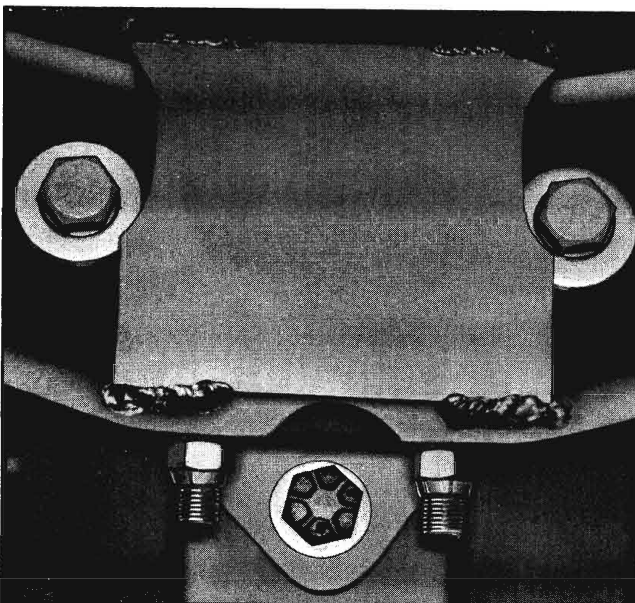

Fig. 4-24 Location of Mounting Bolts
8. Remove two bolts securing differential and carrier to rear crossmember. Remove bolt bracket (Fig. 4-24).
8. Remove two bolts securing differential and carrier assembly to rear crossmember. Remove bolt from bracket (Fig. 4-24).
- Remove two bolts securing differential and carrier assembly to rear crossmember. Remove bolt from bracket (Fig. 4-24).